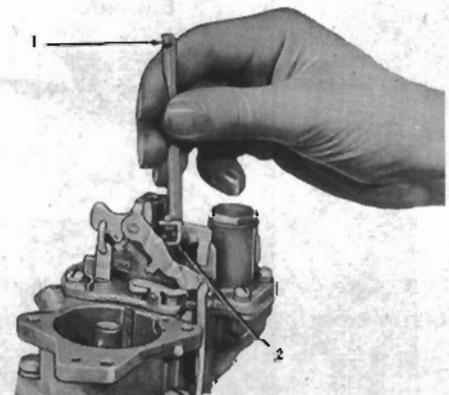

FIG. 38
If an adjustment is necessary, using Adjusting Tool J-1389 (1, Fig. 38), bend the top finger of the vacuum piston link (2) to obtain the proper clearance.